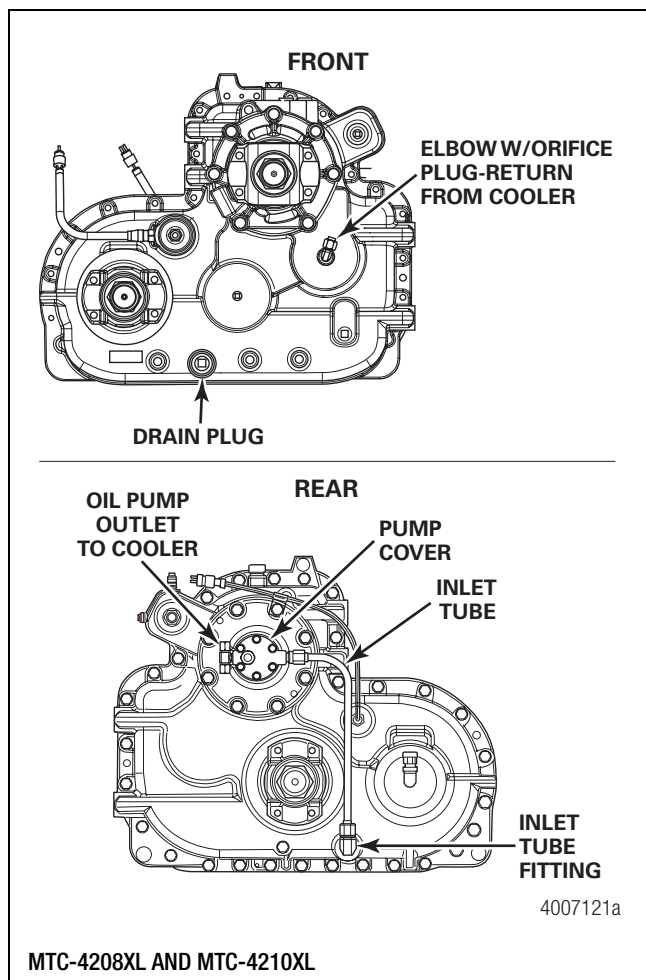

Figure 4.5
1. Disconnect the inlet oil line and original lube fittings. Figure 4.5.